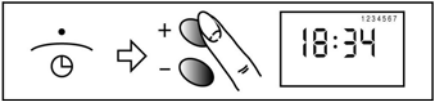

Fig.6
| 9 - Mode selector switch (see Fig.6 and Table 2 below)                                   |
- Turn the mode selector switch to the position (see Fig.6)